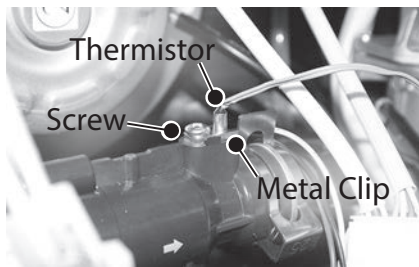

Figure 67 - Water inlet thermistor removal
- 24** Locate the screw securing water inlet thermistor and clip to the flow sensor as shown in Figure 67. Remove the screw and clip. Place the screw aside in a safe place for reinstallation. Discard metal clip.
- 29** Install the new water inlet thermistor and O-ring in the water heater. See Figure 67. Secure with the new metal clip and the screw removed in **Step 24**.